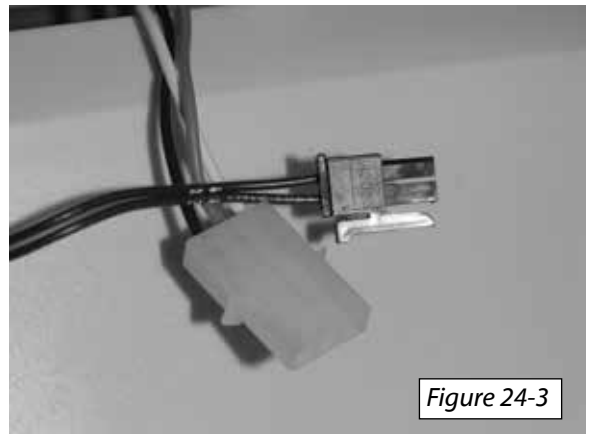

Figure 24-3
6. With the seat in the 90° position, connect the wires from the seat to the corresponding connections on the chassis. *[Figure 24-3]*